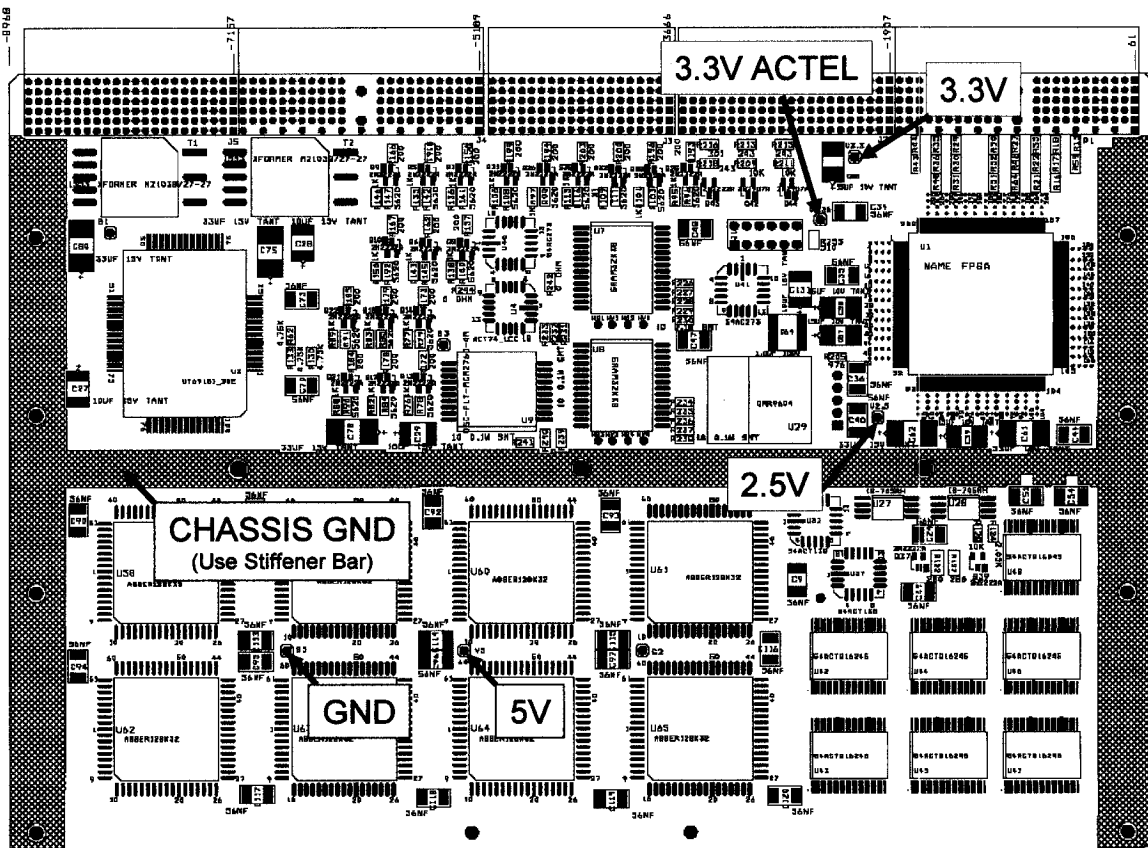

FIGURE 2, VOLTAGE TEST POINTS
10. Check for shorts by using ohmmeter. Fill in matrix below, use test points as shown in Figure 2.
22. Verify SIB on card voltages, reference GND, use test points as shown in Figure 2.
24. Connect Digital Scope using test points in Figure 2: